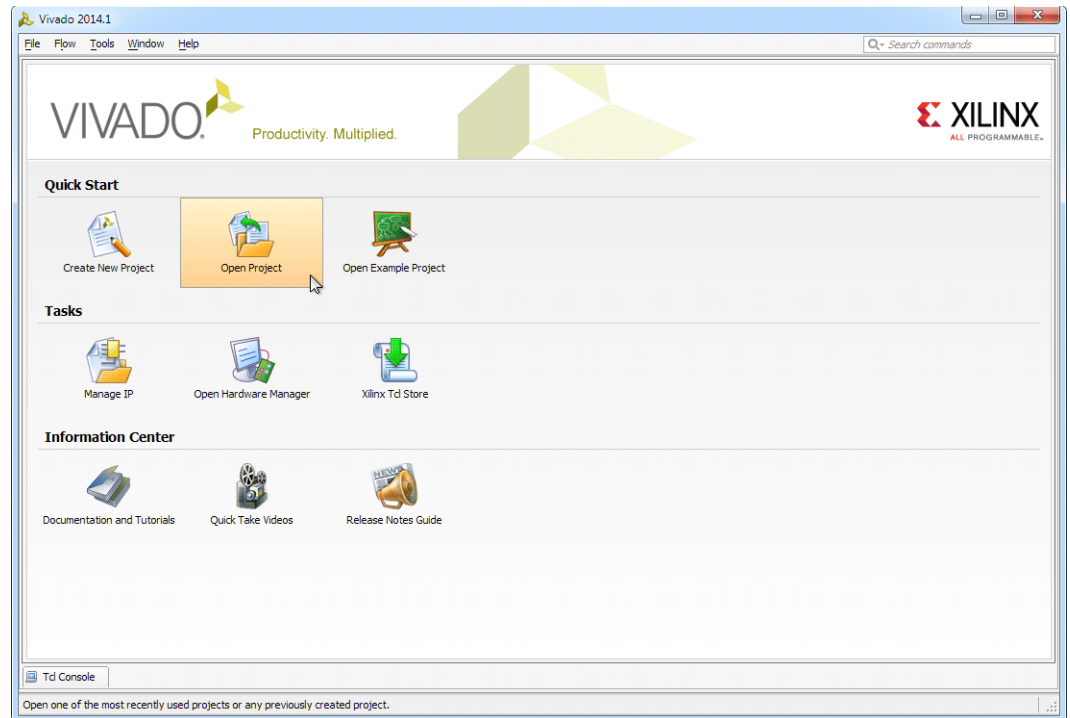

Figure 2: Vivado IDE
3. Select **Open Project** (Figure 2).